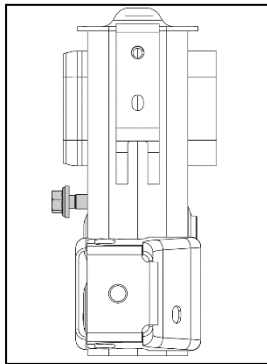

Fig. 3-2
- a. Do not fully thread M10 Bolt. Leave a 14-16mm gap between the frame and washer of the bolt. Refer to Fig 3-2.